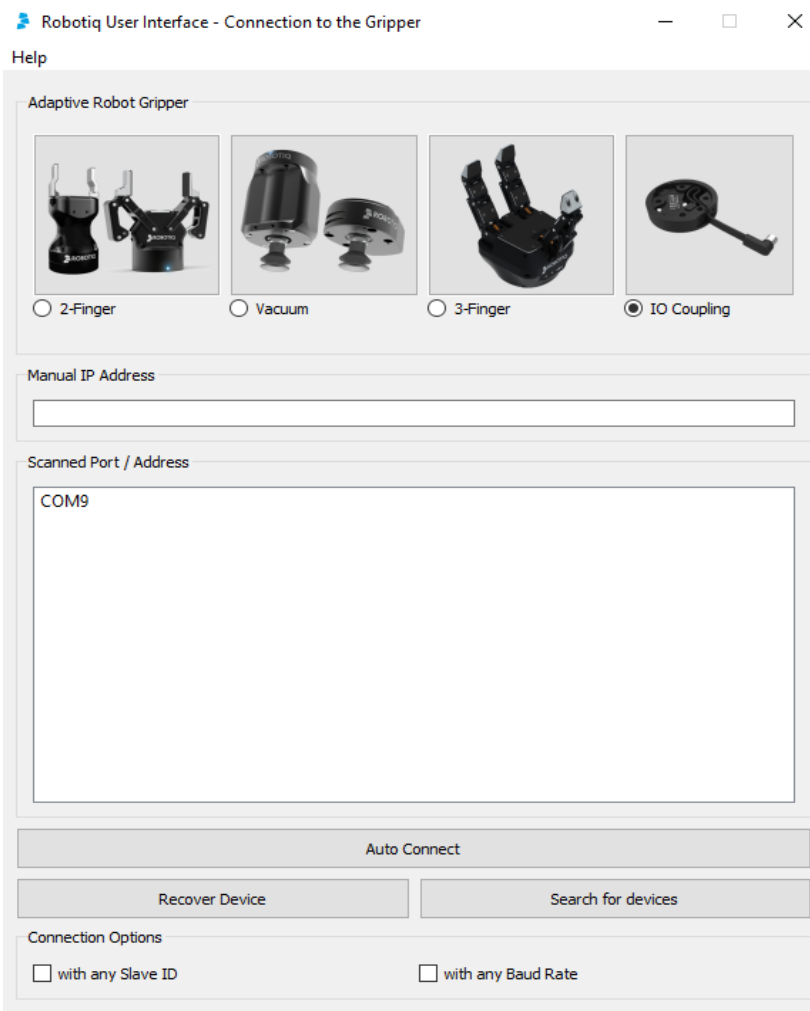

Figure 4.2 Device found (left) and no device found (right).
7. Start the Robotiq User Interface on the computer. Select the I/O Coupling in the list and connect to the Coupling using the **Auto Connect** option (see Figure 4.2). If the firmware of the coupling or the gripper needs to be updated, a pop-up message will notify the user.
3. Start the Robotiq User Interface on the computer. Select the I/O Coupling in the list and connect the Coupling using the **Auto Connect** option (see Figure 4.2). If the firmware of the coupling needs to be updated, a pop-up message will notify the user.
After accepting the Terms of Service, you will be granted access to the Robotiq User Interface connection screen. You need to connect to the Robotiq Gripper you will be using (see Figure 4.2).